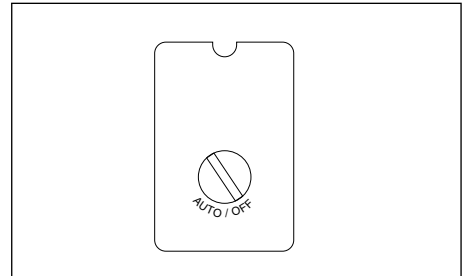

Figure 6
- Turn switch to OFF position and plug in power cord (Fig. 6).
- Turn switch to AUTO position to run unit (Fig. 6).